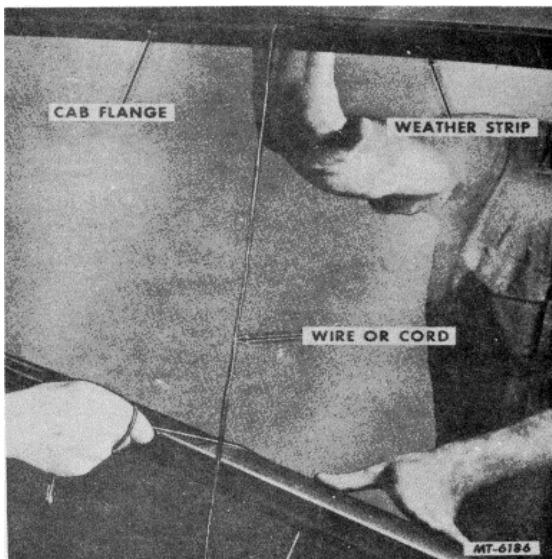

Fig. 28
6. Leave the one end of the cord at the top center of the glass, then grasp the opposite end of the cord to complete the drawing operation around the opposite side of the glass to within approximately 12" of completing the drawing operation, Fig. 28.